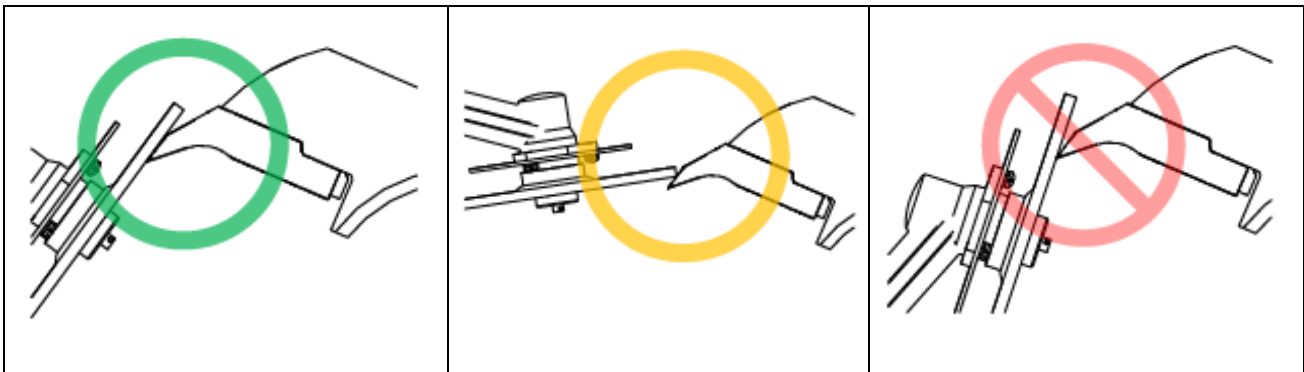

Figure 8
4. Never sharpen just the tip of the tooth. This could lead to the tooth heeling during mulching operations. See Figure 8.
5. Deburr the top of the tooth with the grinding wheel as necessary. Beware not to remove too much material. Deburring the underside of the tooth is not recommended. See Figure 8.